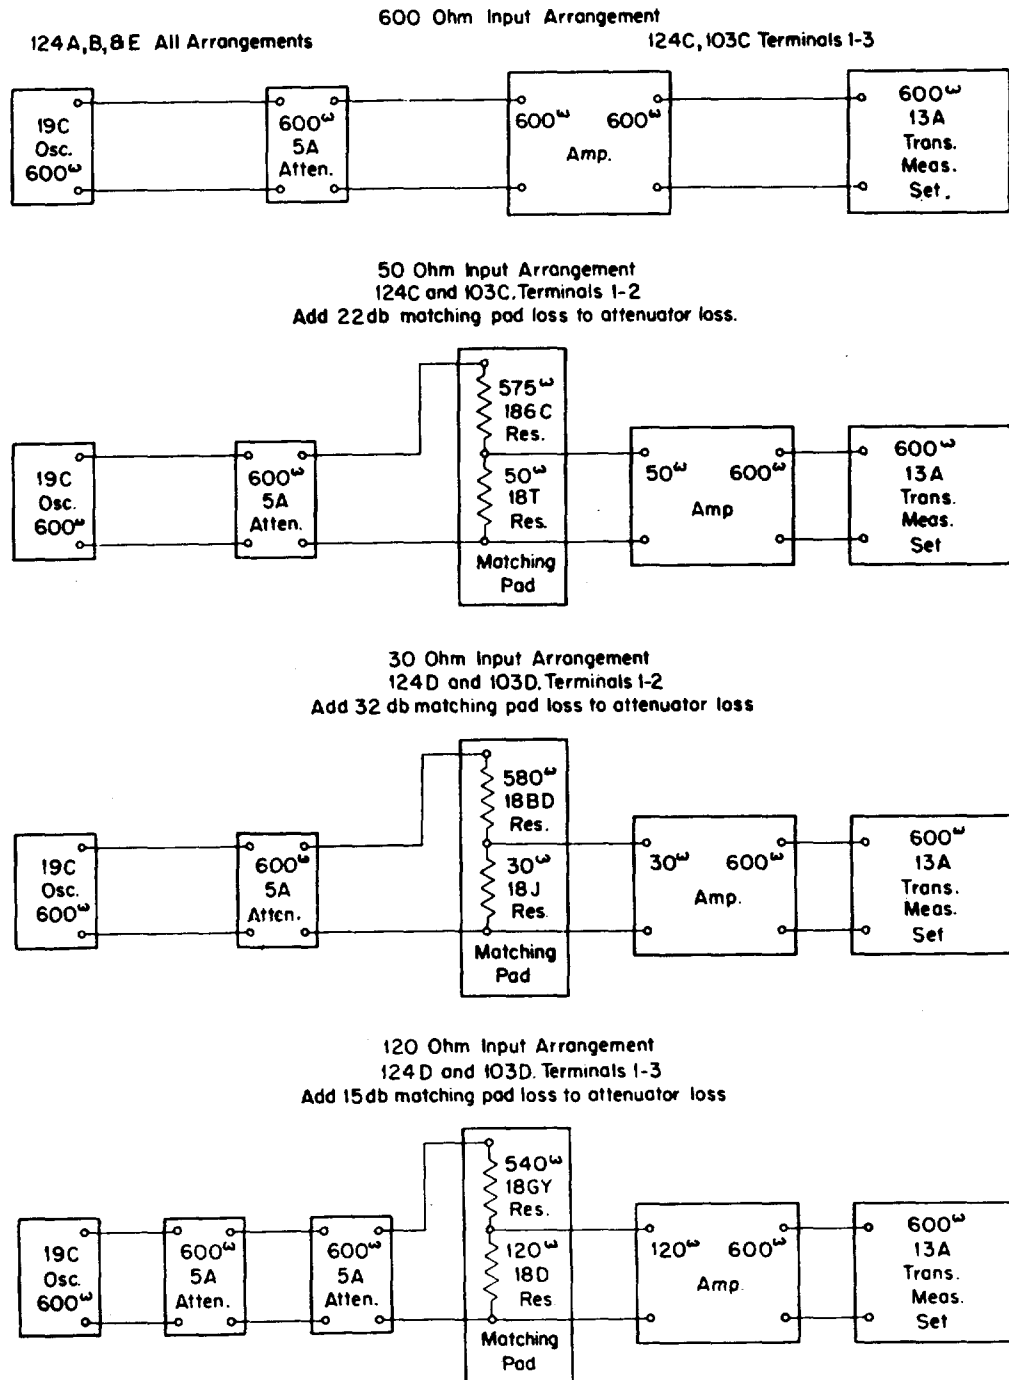

Fig. 1 - Patching Arrangements Used in Testing Amplifiers
impedance matching pad may be made up locally, using 18-type resistances, and connected as shown in Fig. 1.
**Note:** When an impedance matching pad is connected to the 103C, 124C, 103D or 124D amplifiers, the db loss of the pad, as shown in Fig. 1, must be added to the 5A attenuator loss.
- 4.36 With the 50-ohm input terminals 1-2 being used, an impedance matching pad is connected as shown in Fig. 1. With the amplifier adjusted for maximum gain, the gain as described in 4.26 should be  $58 \pm 2$  db. Turning the gain control to position 5, the gain should then be  $20 \pm 4$  db lower than the maximum previously measured.
- 4.38 With the 30-ohm input terminals 1-2 being used, an impedance matching pad is connected as shown in Fig. 1. Due to the high gain of the 124D amplifier and the possibility of damaging the 13A transmission measuring set,
when using the 124-ohm input terminals 1-3 of the amplifier, connect two 5A attenuators and a matching pad as shown in Fig. 1.
- 4.53 Use input terminals 1-2 to check that breathing noises below 1000 cycles are attenuated when the amplifier works out of a carbon transmitter. With the 50-ohm input terminals 1-2 being used, an impedance matching pad is connected as shown in Fig. 1.